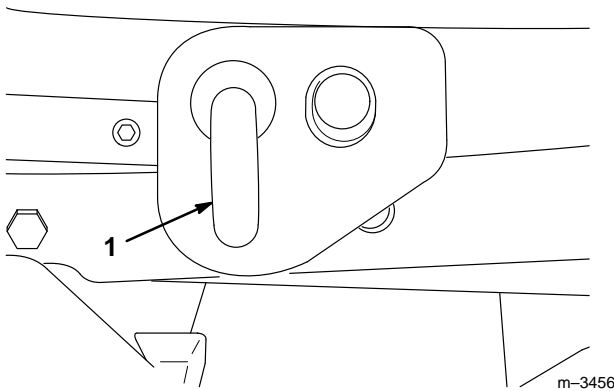

Figure 21
10. Pull the two spring-loaded J-pins from the deck lift arms and twist them slightly so that they stay disengaged (Fig. 21).